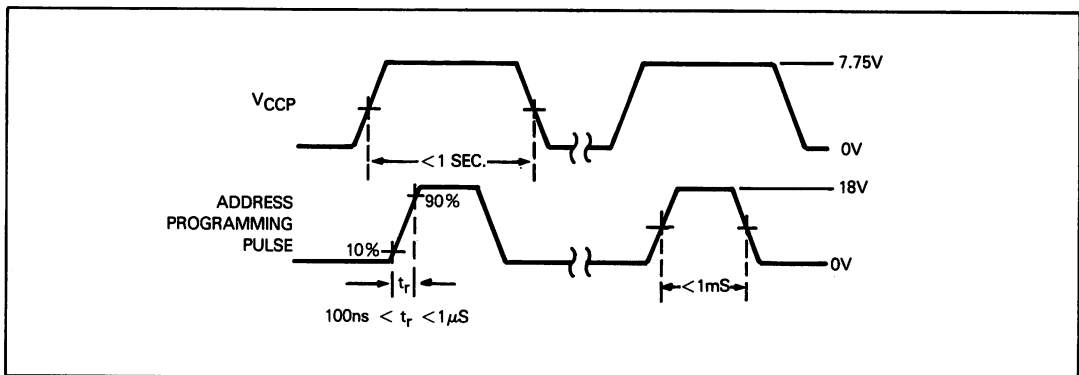

Figure 14-10. 8T32/3/5/6 IV Byte Address Programming Pulse
Table 14-5. Specifications for Signals Illustrated in Figures 14-10 and 14-11
- 3) After  $V_{CC}$  has stabilized, apply a single programming pulse at the UB Bus line corresponding to the bit which must be reset to 0. Figure 14-10 provides timing for the Address Programming pulse. The current should be limited to 75mA.
Table 14-5 provides specifications for the pulses illustrated in Figures 14-10 and 14-11.